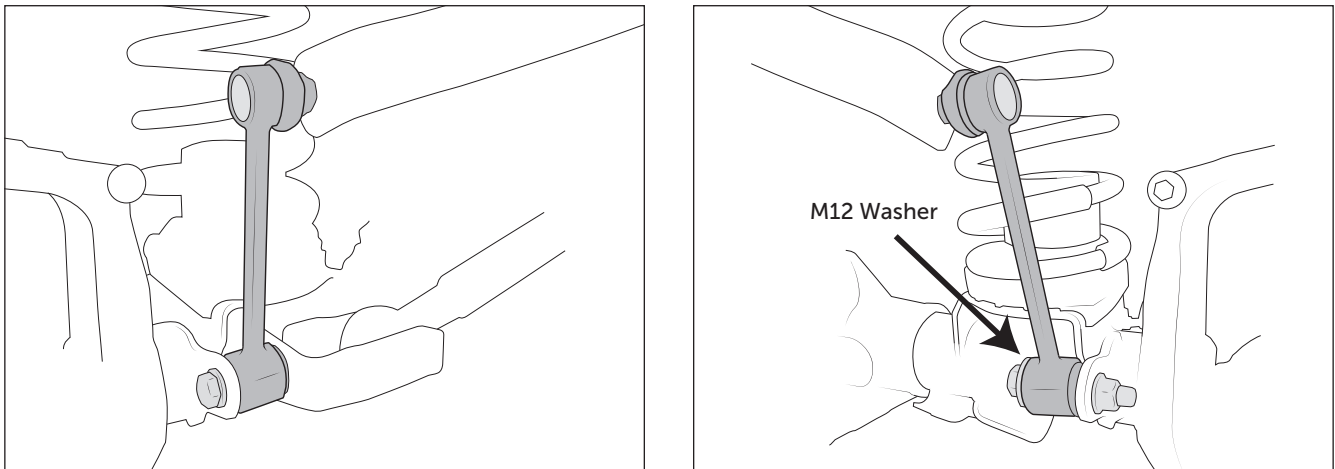

Figure 19
- A. For each side attach the upper end stud to the sway bar in the same manner as the original front links had been (nut on frame side of bar). NOTE: The upper stud has a different thread than the rest of the M12 fasteners in the suspension—it is a “standard” pitch versus a “fine pitch.” Tighten to 40 ft-lbs. (Fig. 19).
- B. The lower ends of the links will attach to the inboard side of the new brackets on the axle using the original hardware, with AEV-provided washer added to the inboard side of driver side link only (Fig 19). Washer is not needed on passenger side because it has brackets on both sides of bushing. Torque to 40 ft-lbs.